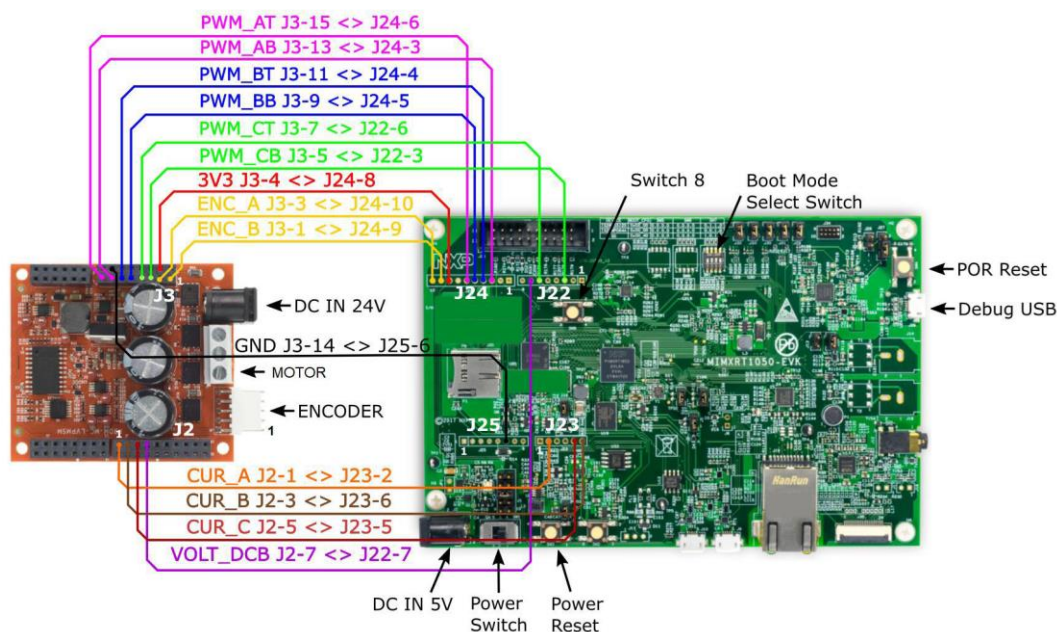

Figure 22. MIMXRT1050-EVK interconnection diagram
1. Connect the FRDM-MC-LVPMSM power stage to the MIMXRT1050-EVK board by wires according to the pin assignment (Table 18) and the interconnection diagram (Figure 22).